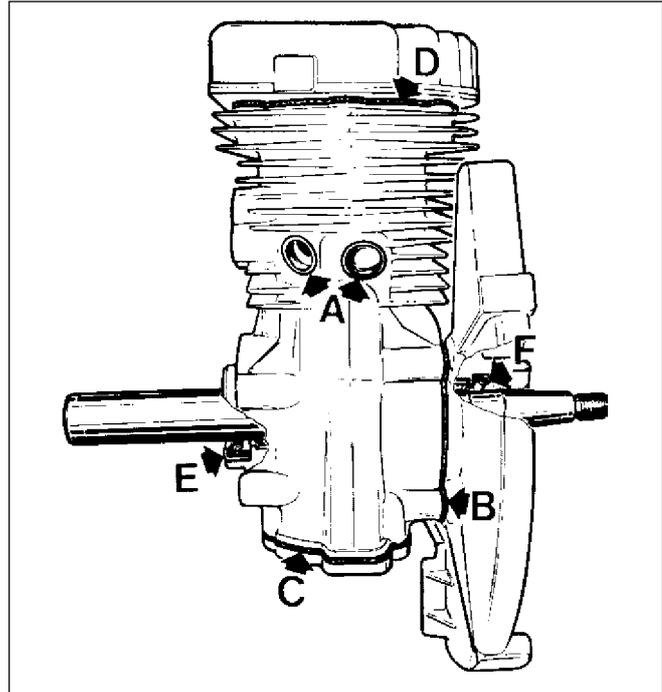

Fig. 4
Fig 4 shows the points to which are fitted the gaskets and oil seals that must always be checked to ensure good running of the engine. On a 2 stroke engine all the seals are very important for correct operation.
**NOTE** - On the short block it is important to ensure that the 4 transfer port plugs are perfectly sealed (Fig 4 A). When replacing the plugs, seal with Loctite or similar.
Gaskets fitted to points **B - C - D** (Fig 4) must be fitted without the aid of any adhesive. Grease may be used every time the engine is stripped. Replace the above gaskets when servicing.
Visually check both crankshaft seals (Fig 4 **E** and **F**) and replace if oil is apparent on the outside of the seal. The crankshaft seals may be removed with the crankshaft in position with the aid of special tool Part No. 670286.